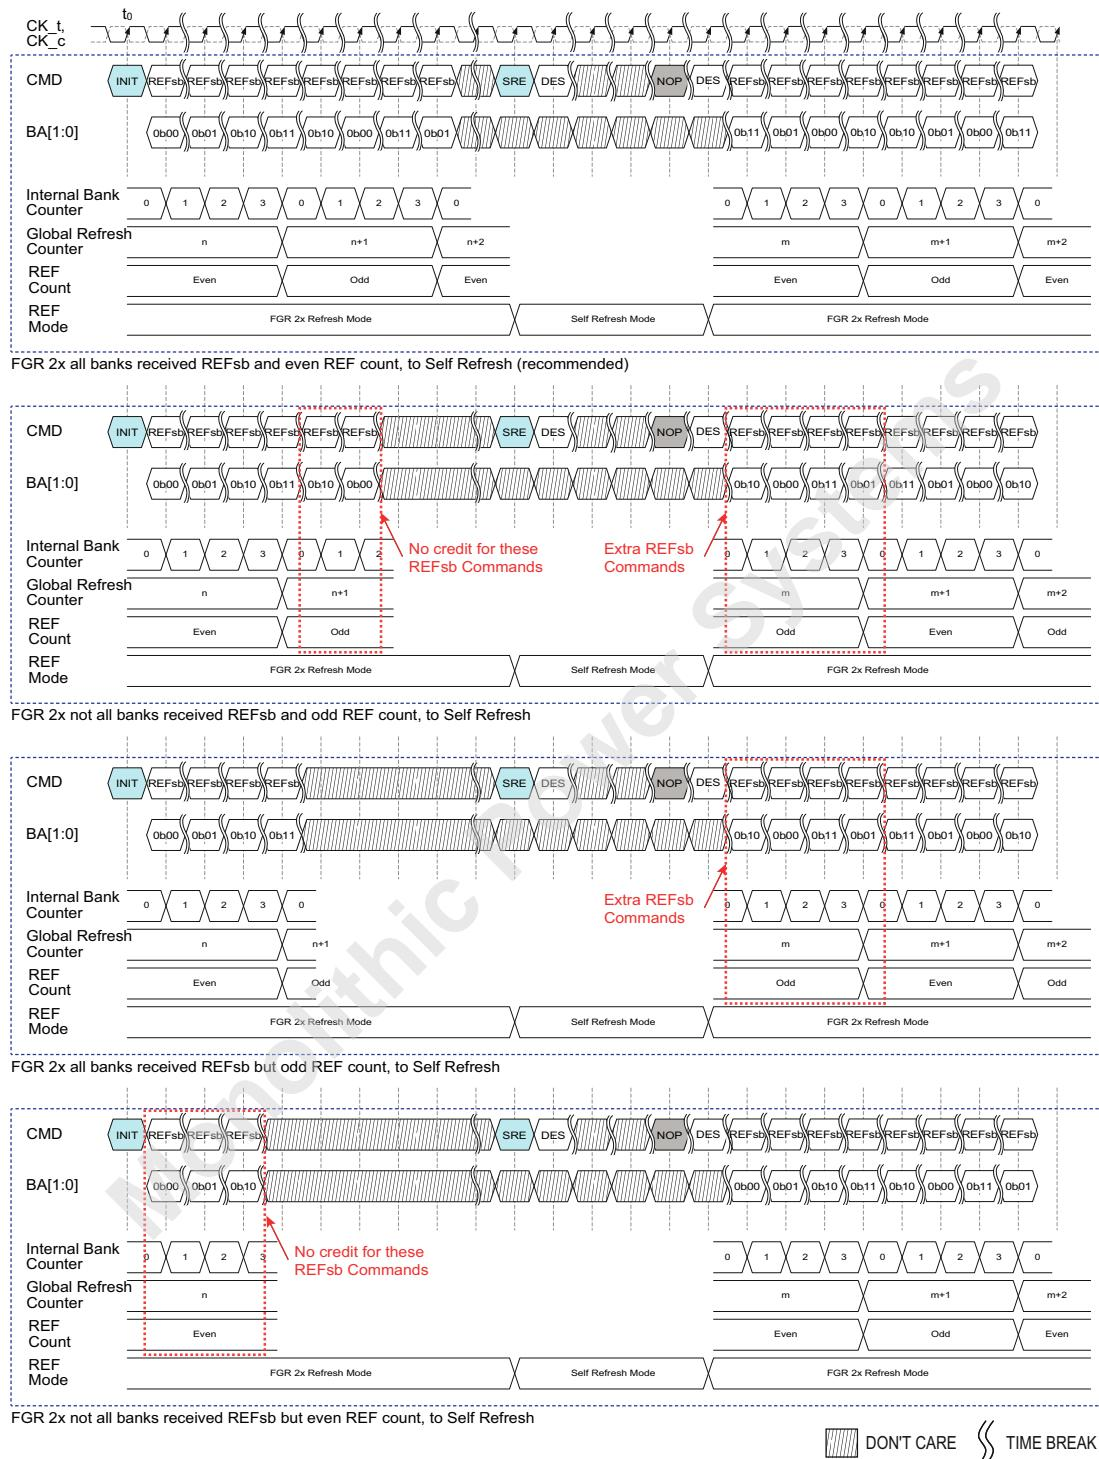

Figure 72 — 16 Gb and Higher Density DRAM FGR 2x REFsb to SREF Command Timing
3. If performing REFsb commands, it is recommended that all banks have received a REFsb command prior to entering Self Refresh, since entering and exiting Self Refresh will reset the internal bank counter. If this condition is met, no additional refresh commands are required upon Self Refresh exit, and REFsb commands again can be issued to any bank in any bank order. If this condition is not met, one extra REFab command or an extra REFsb command to each bank is required to be issued to the DDR5 SDRAM upon Self Refresh exit. These extra Refresh commands are not counted toward the computation of the average refresh interval (16Gb and higher density DRAM with 4 banks per bank group example: tREFI2 - see **Figure 72**). These extra Refresh commands count toward the maximum number of refreshes which may be postponed. Refer to **Clause 4.9** for more information.